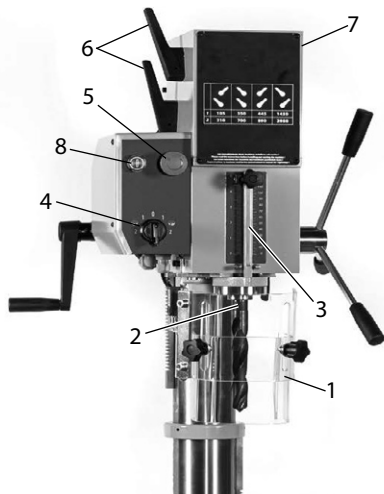

Figure 6 - Drill head, example.
See the location of the emergency stop push button (5) in figure 6. The emergency stop shall be used in case of emergency to stop the machine as fast as possible.